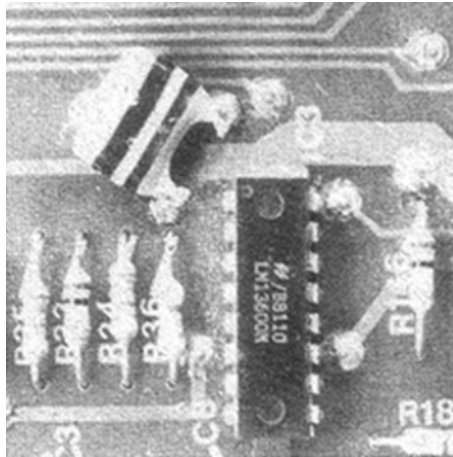

Figure 3. Reduction of interference from sampling clock on pedal wires. See note 8.
- 8 If you notice a background whistle when the pedals are pressed then connect a 0.1 μ F polyester capacitor to the track pin at the top of R36 and the track pin next above it to the right. See Figure 3.